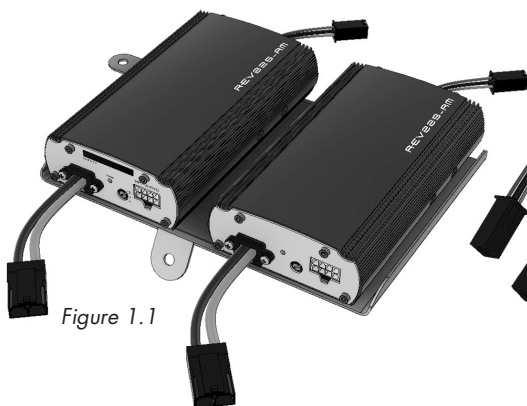

Figure 1.1
- Step #3: Remove the new amp you are installing off the plate it came on in the box. Put that plate aside as it is not used in this installation. If installing a second amp in a Street Glide or Ultra, the second amp will be installed on the plate already on the bike as shown below in Fig 1.1 below. Make sure to have the 4 pin black "pigtail" sit on top of the amp when sticking it in place.